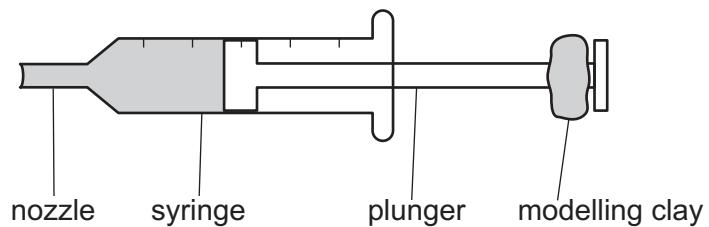

Fig. 1.1
Step 2 You have been provided with a small piece of modelling clay. Shape the modelling clay around the end of the syringe plunger as shown in Fig. 1.1. It is important that the modelling clay is firmly attached to the plunger so that it does **not** fall off.